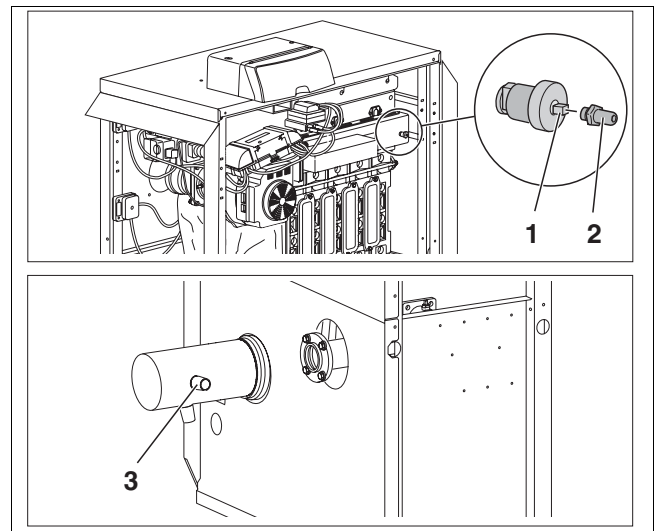

Fig. 57 Determining the extent of contamination
- Connect differential pressure tester to burner pressure testing nipple and a pressure testing point on the flue socket (→ Fig. 57)